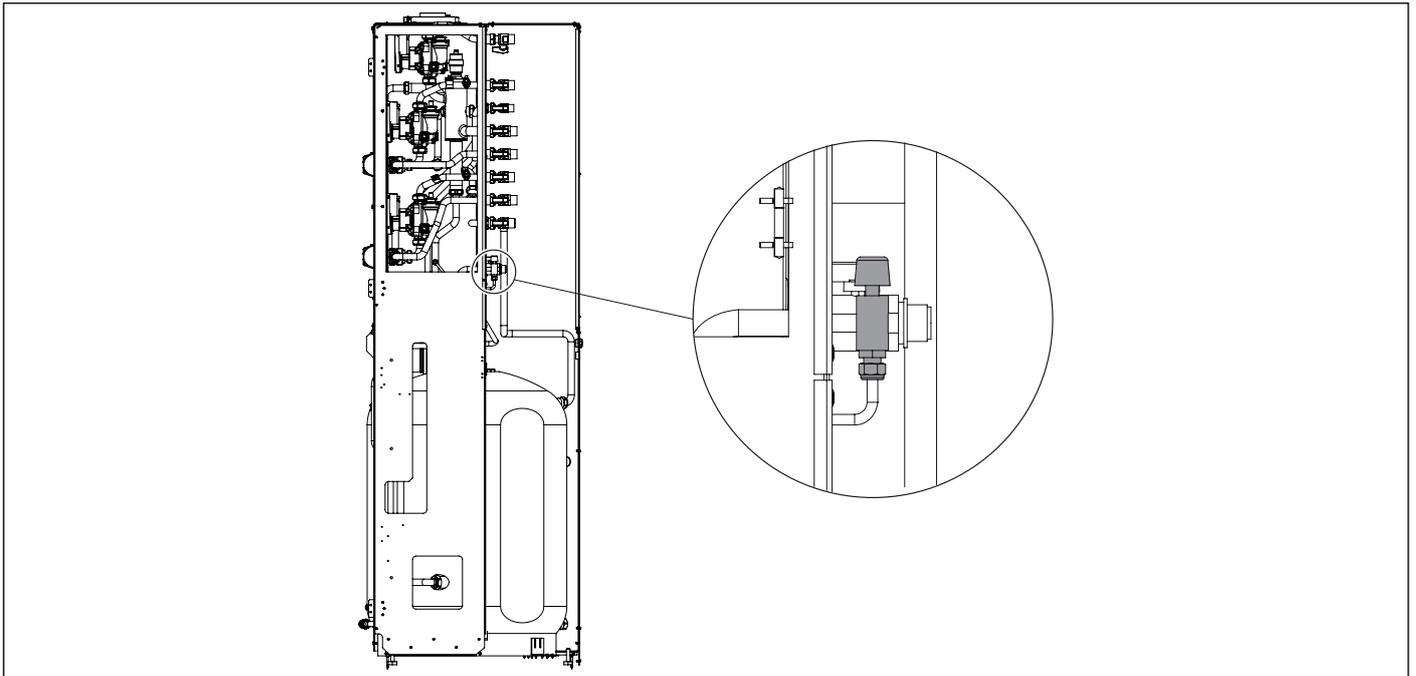

Fig. 2 Filler cock
If "shut-down due to insufficient pressure in system" error **E04** starts flashing (indicating safety water pressure switch triggering), fill the system by opening the filler cock as shown in Fig. 2 Filler cock. **E04** error is displayed when system pressure drops below 0.4 bar and error will be automatically reset as soon as system pressure reaches 1.0 bar. Water pressure must be 1-1.3 bars while the boiler is cold.
- turn the filler cock Fig. 2 Filler cock anticlockwise to allow water to enter the boiler;